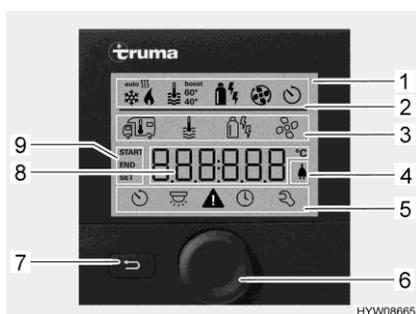
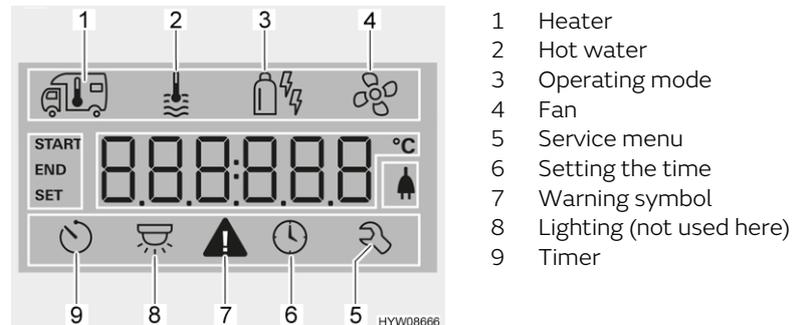

Fig. 230 Operating unit with displays
Fig. 231 Display (operating unit)
- Status line (Fig. 230,2)
- Upper menu line (Fig. 230,3)
- Display area (Fig. 230,8)
- Lower menu line (Fig. 230,5)
- Press and hold the rotary push button (Fig. 230,6) for approx. 3 seconds. Both menu lines (Fig. 230,3 and Fig. 230,5) are displayed. The first symbol flashes.
- Turn rotary push button (Fig. 230,6) until the required menu symbol flashes.
- Press rotary push button to save the value set. If you do not wish to change the value originally set: Press back button (Fig. 230,7).
- Turn rotary push button (Fig. 230,6) until the heater menu symbol (Fig. 231,1) flashes.
- Press rotary push button to save the value set. The symbol in the status line (Fig. 230,2) flashes until the room temperature set is reached. If you do not wish to change the value originally set: Press back button (Fig. 230,7).
- Turn rotary push button (Fig. 230,6) until the hot water menu symbol (Fig. 231,2) flashes.
- Press rotary push button to save the value set. The symbol in the status line (Fig. 230,2) flashes until the hot water temperature set is reached. If you do not wish to change the value originally set: Press back button (Fig. 230,7).
- Turn rotary push button (Fig. 230,6) until the menu symbol operating mode (Fig. 231,3) flashes.
- Press the rotary push button to save the set operating mode. To revert to the original setting: Press back button (Fig. 230,7).
- Turn rotary push button (Fig. 230,6) until the fan menu symbol (Fig. 231,4) flashes.
- Turn rotary push button (Fig. 230,6) until the timer menu symbol (Fig. 231,9) flashes.
- Press rotary push button. The timer is activated. The timer symbol (Fig. 231,9) flashes when the timer is programmed and active.
The warning symbol (Fig. 231,7) flashes in the event of a warning. The heater continues to operate. In the event of only a temporary fault, the warning symbol goes out automatically.